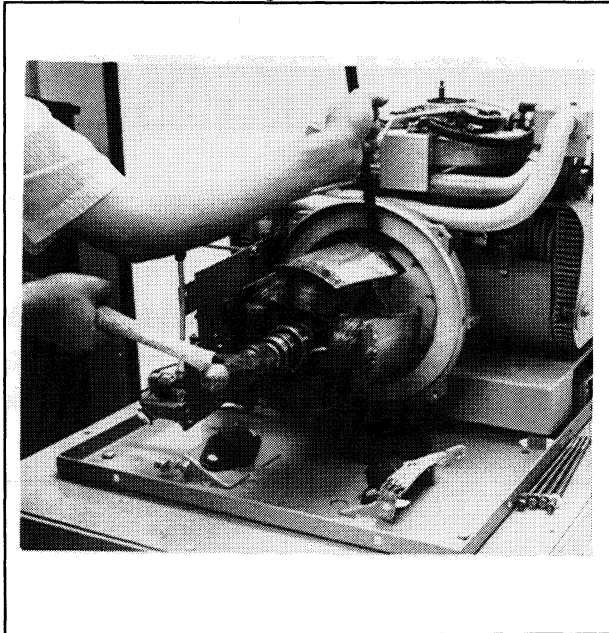

Figure 8-12. Striking Thru-Bolt
20. Loosen the rotor from the tapered stub of the crankshaft by striking the thru-bolt head with a heavy mallet. See Figure 8-12. Remove rotor and fan.